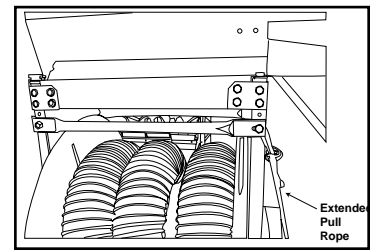

Fig 20
- Install pull handles (if ordered) where shown. See Fig.20.